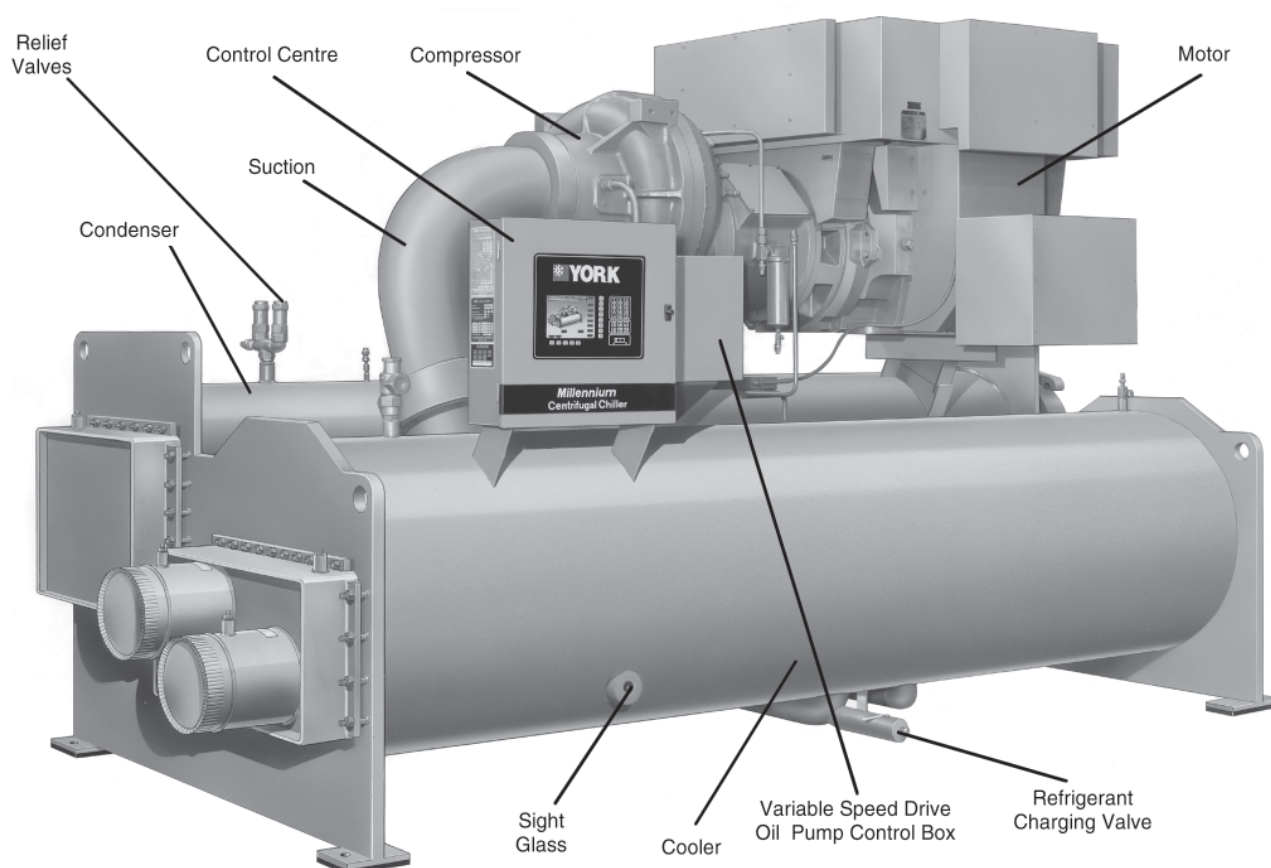

Figure 2.1 YK Centrifugal Liquid Chiller (Front View)
2.1 General (Figures 2.1 and 2.2)